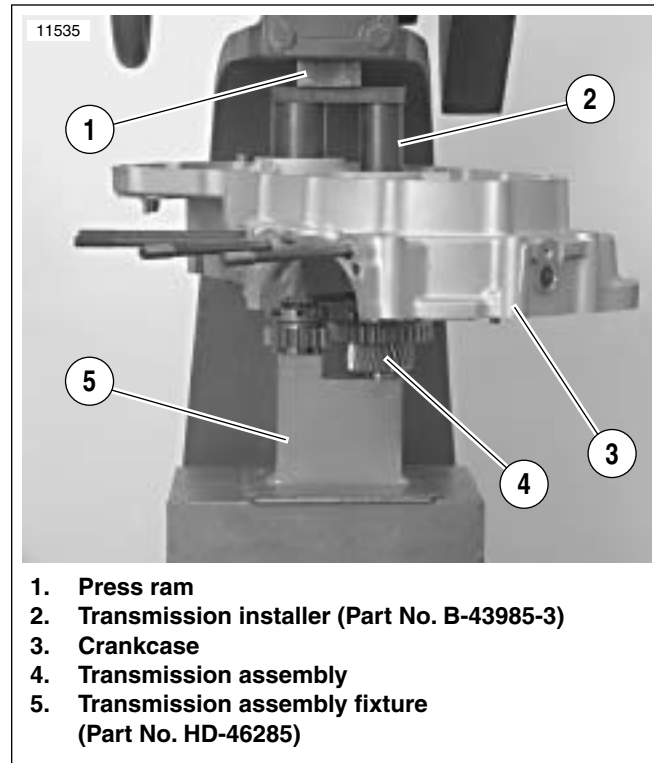

Figure 6-87. Pressing Transmission Into Left Crankcase (Typical)
3. See Figure 6-87. Place left case half over transmission assembly and install TRANSMISSION INSTALLER (Part No. B-43985-3) into crankcase.